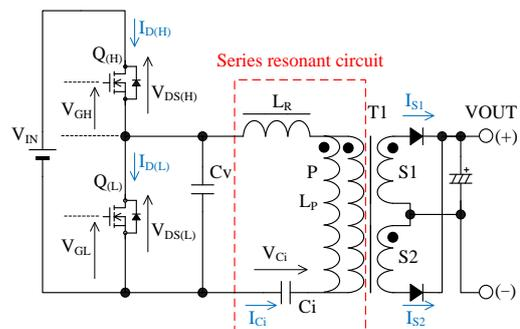
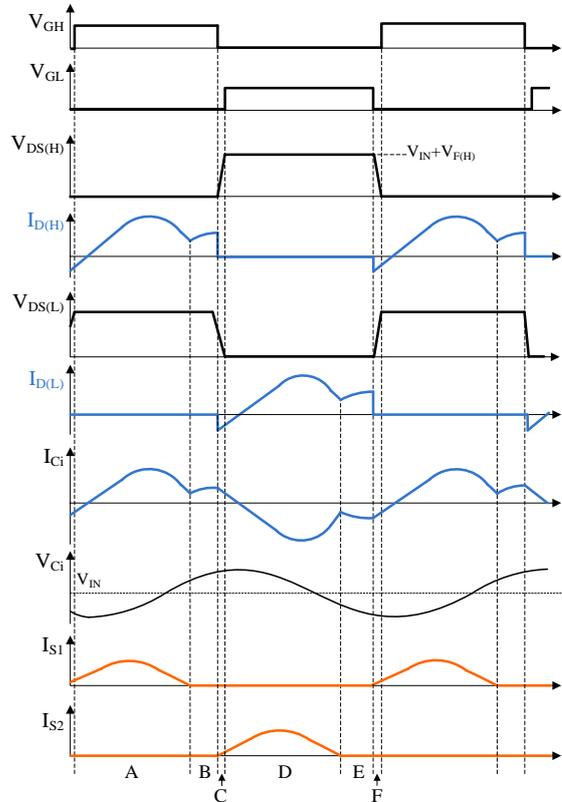

Figure 8-3. Current Resonant Power Supply Circuit
Figure 8-4. The Basic Operation Waveforms of Current Resonant Power Supply
Figure 8-3 shows the circuit of a current resonant power supply. The basic configuration of the current resonant power supply is a half-bridge converter. The switching devices, Q(H) and Q(L), are connected in series with VIN. The series resonant circuit and the voltage resonant capacitor, Cv, are connected in parallel with Q(L). The series resonant circuit is consisted of the following components: the resonant inductor, LR; the primary winding, P, of a transformer, T1; and the current resonant capacitor, Ci. The coupling between the primary and secondary windings of T1 is designed to be poor so that the leakage inductance increases. This leakage inductance is used for LR. This results in a down sized of the series resonant circuit. The dotted mark with T1 describes the winding polarity, the secondary windings, S1 and S2, are connected so that the polarities are set to the same position as shown in Figure 8-3. In addition, the winding numbers of each other should be equal. From Equation (1), the impedance of a current resonant power supply is calculated by Equation (5). From Equation (4), the resonant frequency, f0, is calculated by Equation (6).
Figure 8-4 describes the basic operation waveform of current resonant power supply (see Figure 8-3 about the symbol in Figure 8-4). For the description of current resonant waveforms in normal operation, the operation is separated into a period A to F. In the following description: